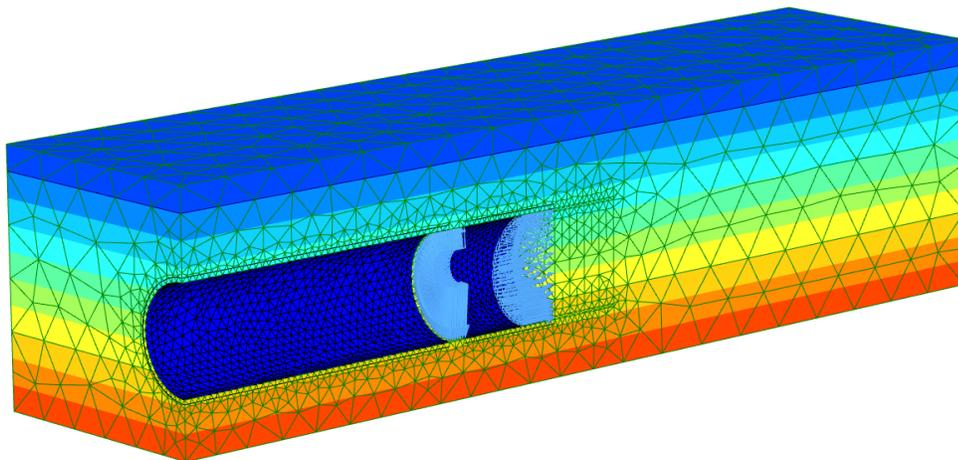

Figure 91: Preview of the Phase 1
7.  Click the **Preview** button to get a preview of everything that has been defined (Figure 91 (on page 116)). Make sure that both grout pressure and tunnel face pressure are applied and that both increase from top to bottom.